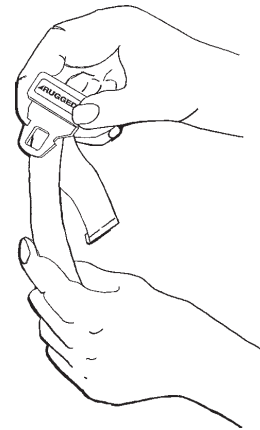

Figure 21.2: Lengthening the Safety Restraint
- **To lengthen the restraint**, grasp the buckle latch plate, turn it at an angle to the webbing, then pull it out as shown in Figure 21.2. A hemmed tab at the end of the webbing prevents the latch plate from coming off of the strap.